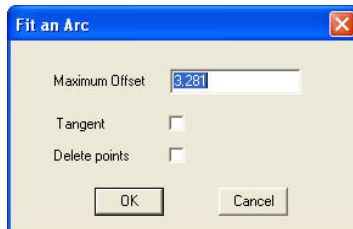

Figure 9-63. Fit an Arc
- Select the points in which you want to fit the arc, and press **Esc**. The *Fit an Arc* dialog box appears (Figure 9-63).